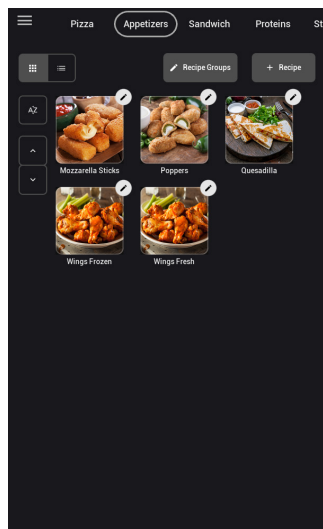

Figure 31: Select Groups to Place Recipe Into
5. Select a recipe (or recipes) to add to the group (Figure 31, below).